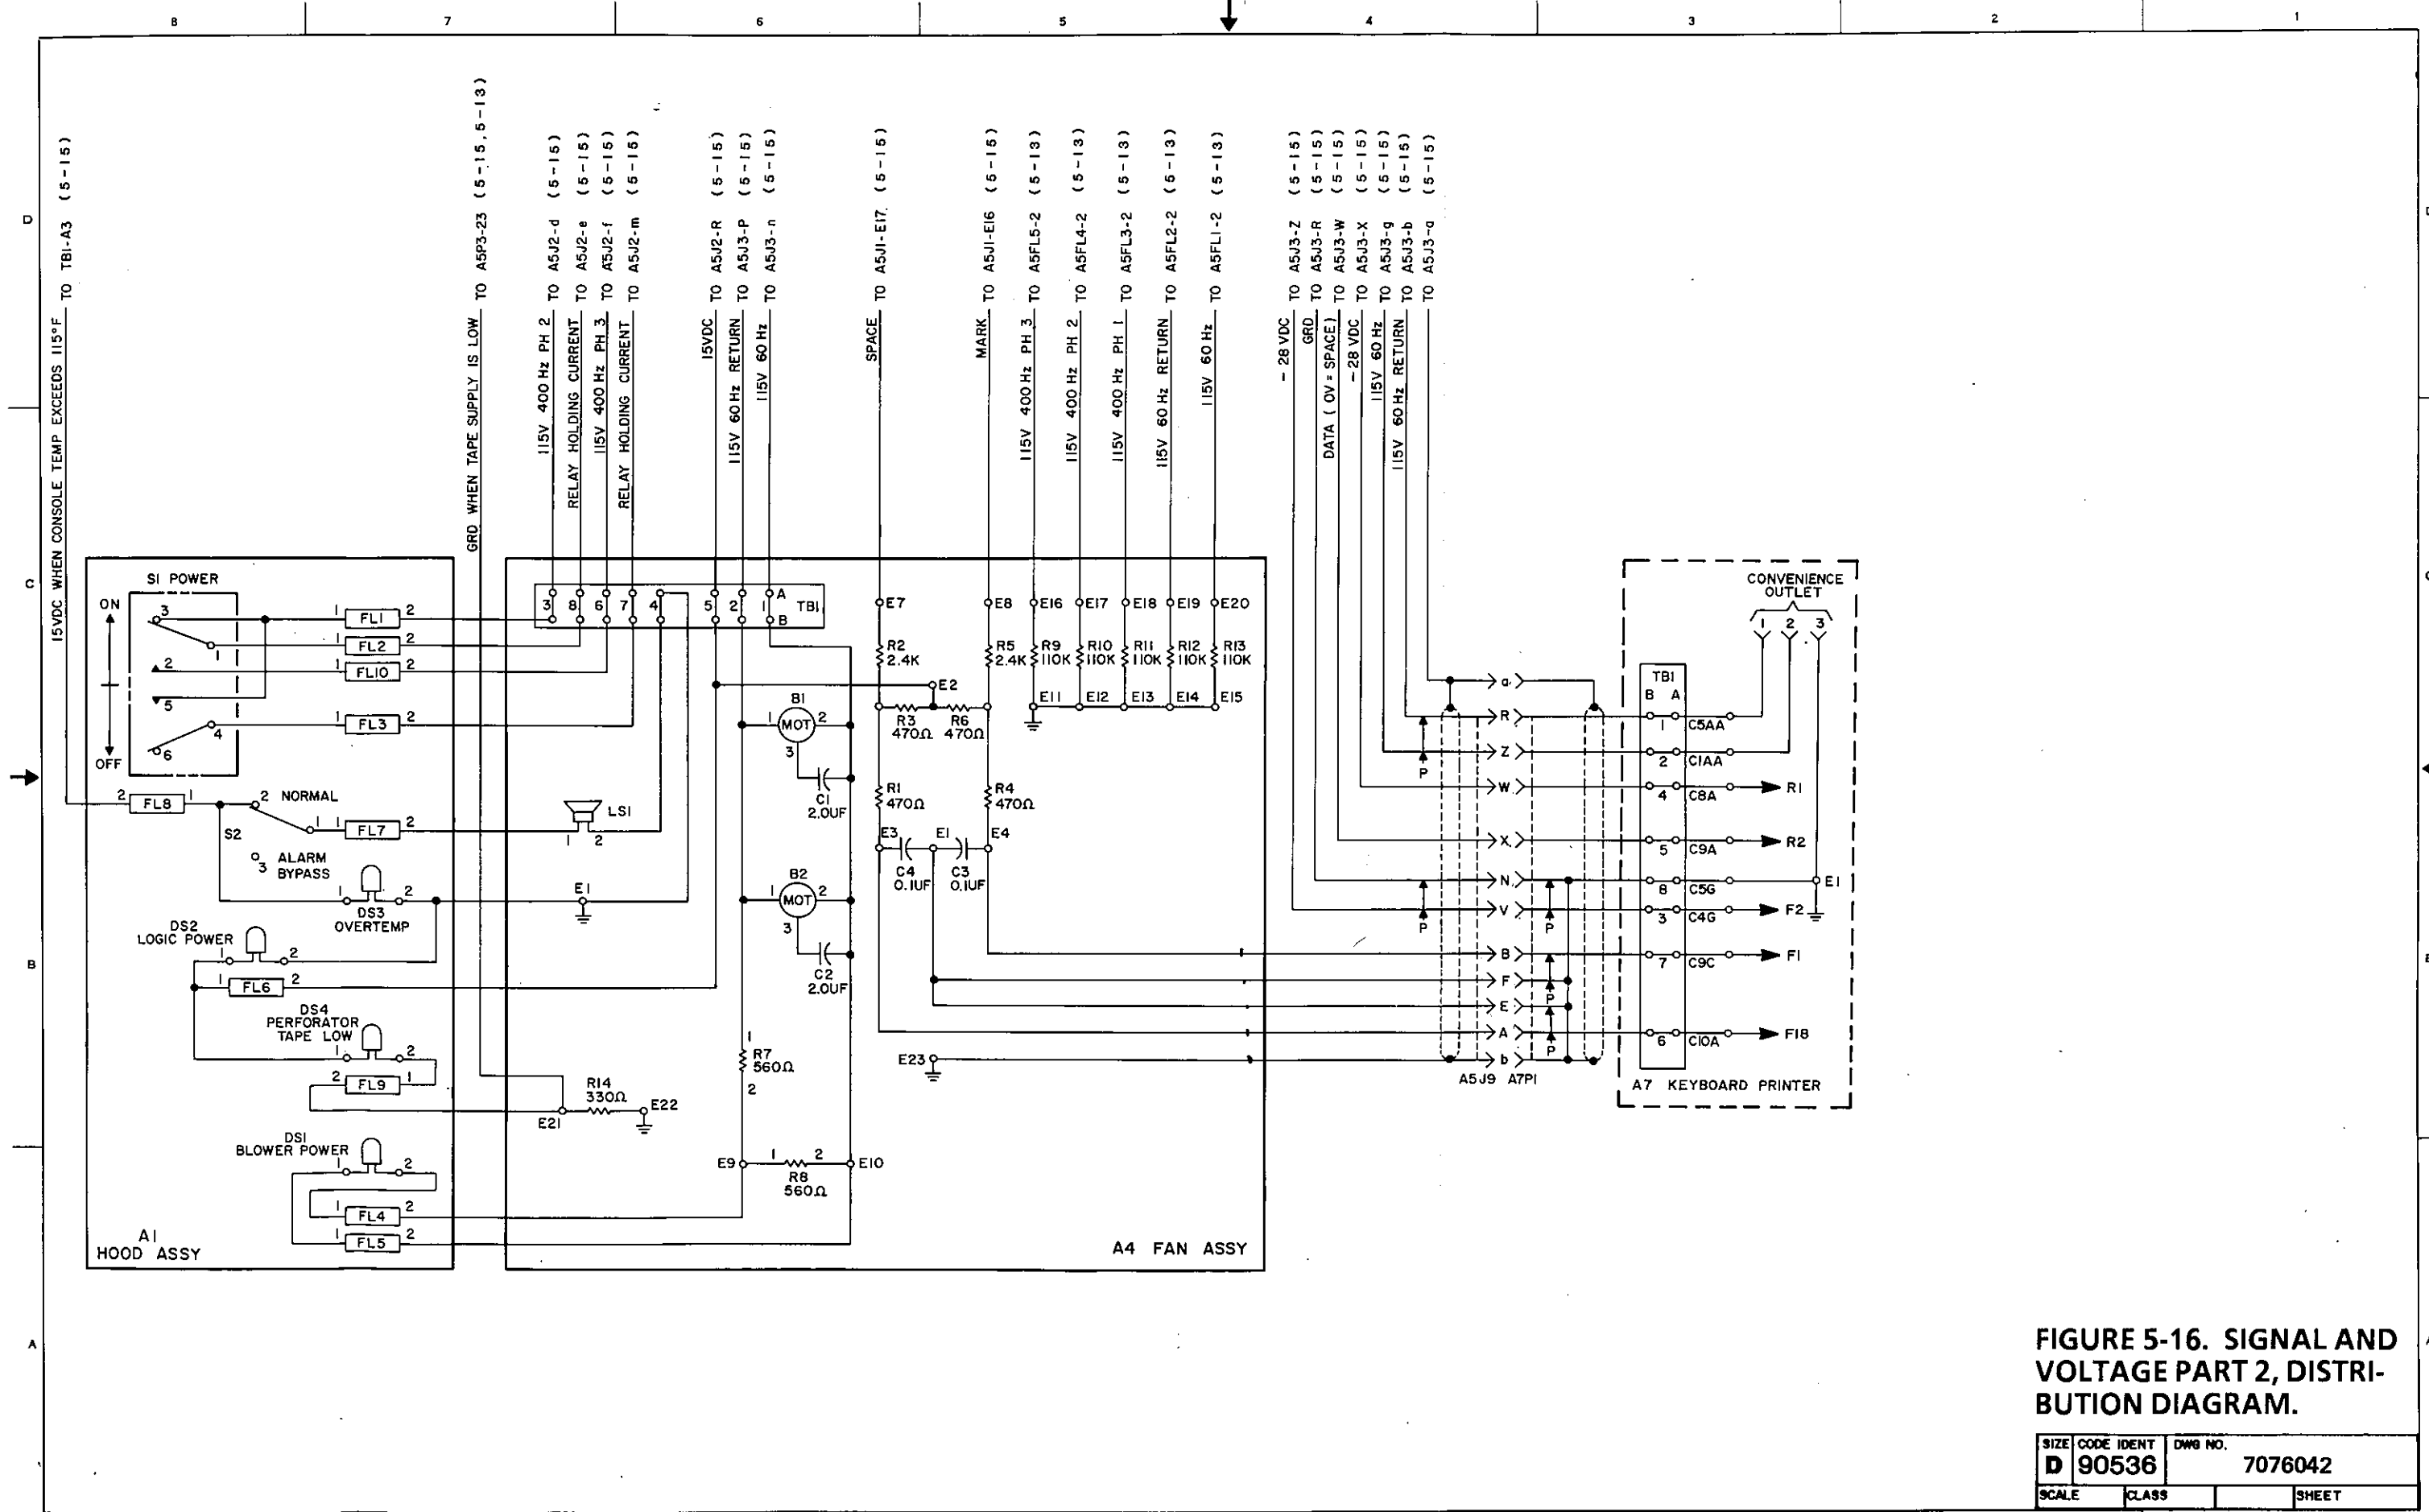

FIGURE 5-16. SIGNAL AND VOLTAGE PART 2, DISTRIBUTION DIAGRAM.
b. Determine that BLOWER POWER (DS1) and LOGIC POWER (DS2) indicator lights are energized, showing application of operating power to fan assemblies and logic chassis. If both indicators do not light, remove power from I/O Console and perform necessary maintenance before proceeding (figure 5-16).